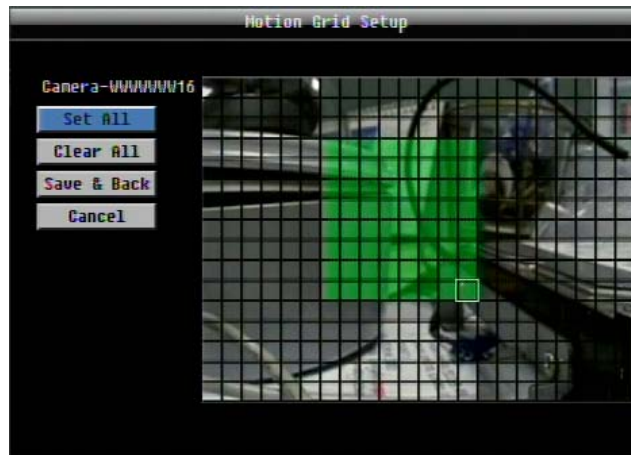

Figure 4-5 Camera Menu – Motion Grid Setting
**Edit Motion Grid:** Press this button to edit the motion grid (See Figure 4-5 Camera Menu – Motion Grid Setting ).